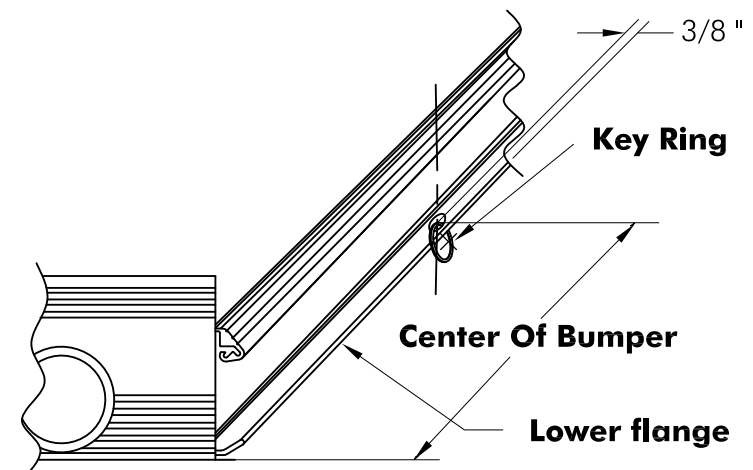

Fig. 2
- ❑ To install the rear key ring, find the center of the rear bumper (side to side) and mark the lower flange. Then measure in 3/8" on the centerline and center punch. Drill a 1/4" hole and install key ring thru hole. Install rear gate and attach the bungie hook into the key ring. See Fig. 2